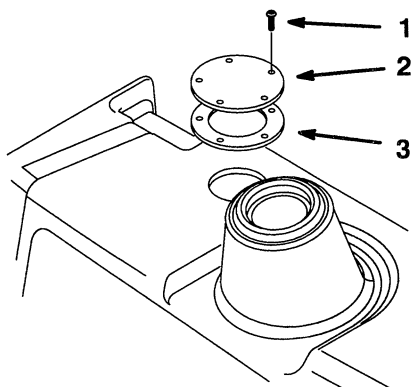

Figure 1
2. Remove screws, cover plate and gasket from fuel tank opening (Fig. 1). Discard these pieces.